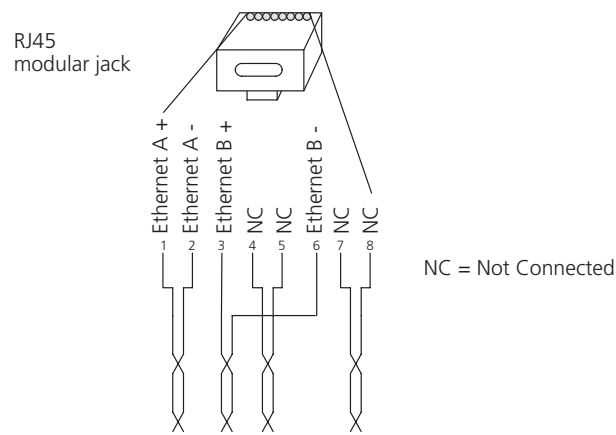

Figure 16. Connector pinning of the Ethernet cable.
- 2 Connect the cable to a RJ45 modular jack. For information on the pinning, see Figure 16.